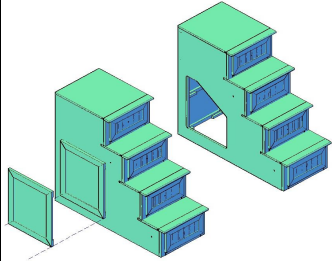

FIG. 12
- 6.- PLACE FOUR SLATS (P) ON TOP SIDE RAIL CLEATS, ONE SLAT IN BOTH HDBD & FTBD ENDS, PUSH THE SLATS AGAINST THE BED END POST (FIG. A) AND TWO SLATS IN THE MIDDLE AT EQUAL DISTANCE FROM THE END SLATS, THEN EACH SLAT MUST BE FASTEN WITH ONE 1 1/4" SCREW (Q), SEE FIG.12 (**USE ONE TWIN 4 PCS SLAT PACK (98-645)**)
- 7.- PLACE FOUR SLATS (P) ON BOTTOM SIDE RAIL CLEATS, ONE SLAT IN BOTH HDBD & FTBD ENDS, PUSH THE SLATS AGAINST THE BED END POST (FIG.A) AND TWO SLATS IN THE MIDDLE AT EQUAL DISTANCE FROM THE END SLATS, THEN EACH SLAT MUST BE FASTEN WITH ONE 1 1/4" SCREW (Q), SEE FIG.12 (**USE ONE FULL 4 PCS SLAT PACK (98-646)**)
- 1.- PROCEED TO ASSEMBLE THE STEP UNIT, FIRST CHOOSING THE CONFIGURATION THAT FITS YOUR ROOM, **LEFT OR RIGHT** SEE FIG. 12, IF LEFT GO TO STEP #3 OR RIGHT GO TO STEP #2
- 2.- CHANGE DOOR THAT IS FACTORY INSTALLED IN LEFT SIDE TO THE RIGHT SIDE, USING A PHILLIPS SCREWDRIVER (**NOT INCLUDED**), REMOVE SCREWS FROM CASE PORTION OF THE HINGES, KEEP THE HINGES FOR ATTACH THE DOOR (FIG.12) (**SAVE THE SCREWS TO RE-ATTACH THE DOOR TO RIGHT SIDE**), THEN INSTALL DOOR ON THE RIGHT SIDE.